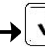

Figure 4
Pull the filter pan slightly out from the cabinet until a **"P"** is visible on the top right corner of the display (see Figure 4).
Step 5 – Reset the fryer on the Left screen (NOTE: If the far-left controller is not operational, swap positions with another operational older style controller (see Figure 4), if mixing controller types. An older style controller MUST always be in the FAR-LEFT position when mixing controller types).